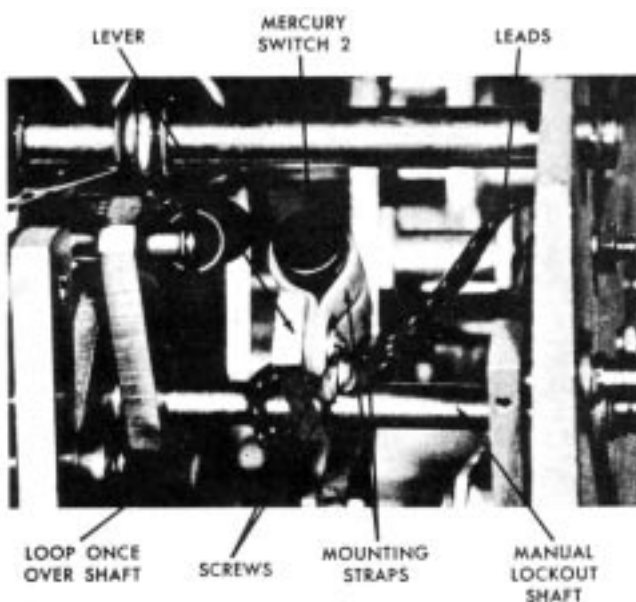

Figure 33
Refer to figure 33 and install new switch as follows:
5. Pass sleeving through mounting straps and tighten to secure sleeving. Connect switch leads to proper terminals. Position switch as shown in figure 33 and secure mounting straps to lever. If switch is positioned opposite to that illustrated in figure 33, the recloser will operate improperly.